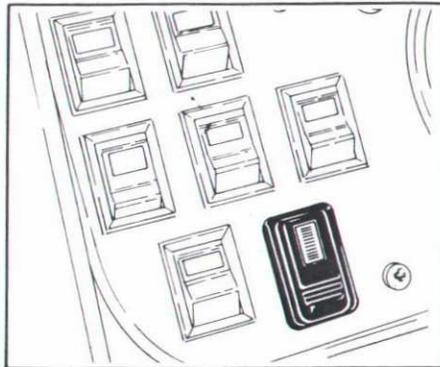

Fig. 9 Right-hand drive
**Brake fluid level warning light – Figs. 9 and 10**